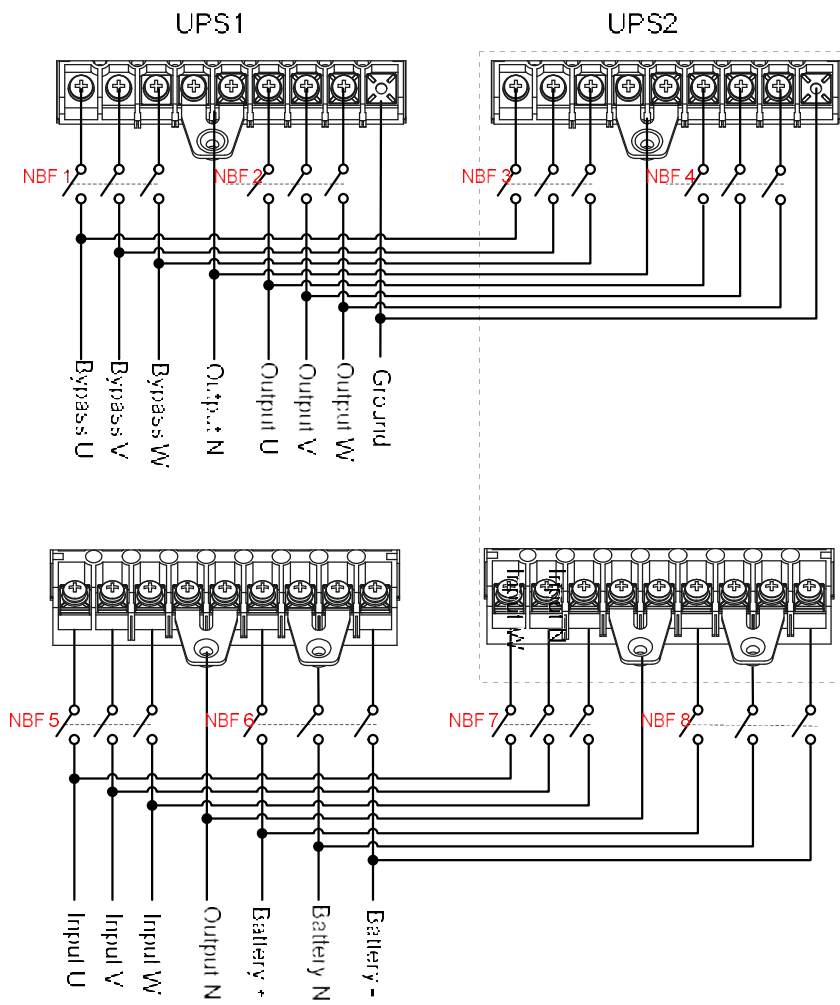
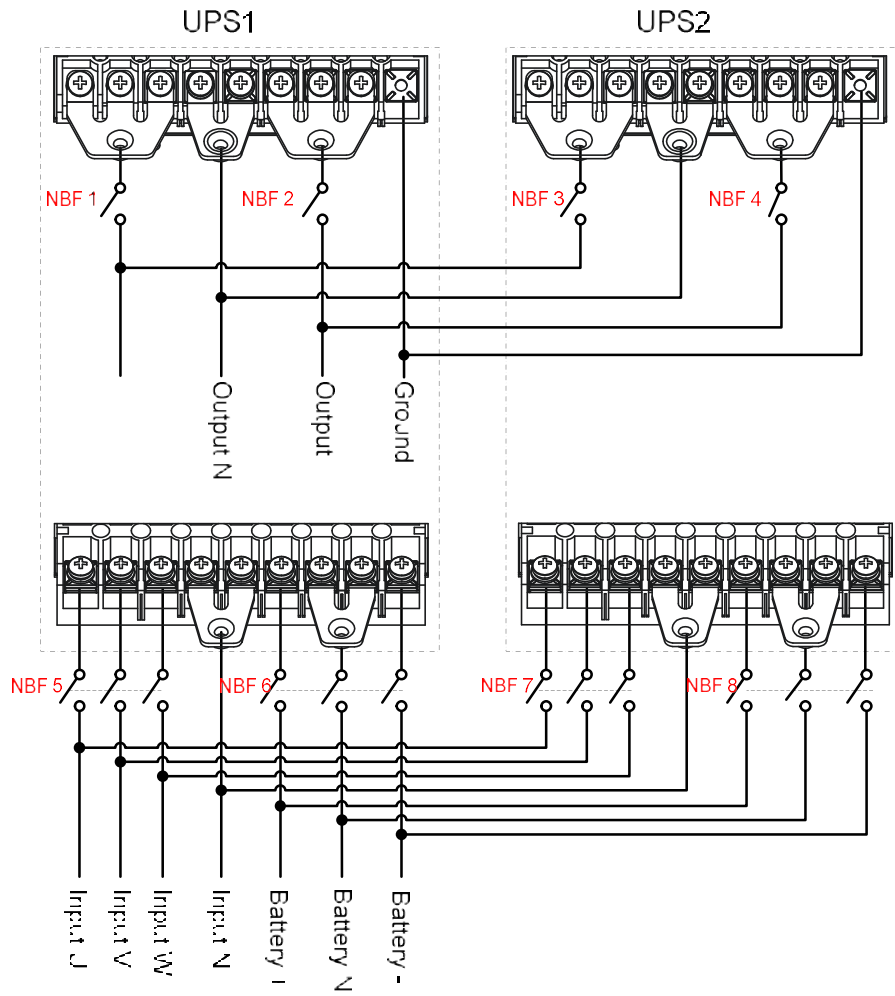
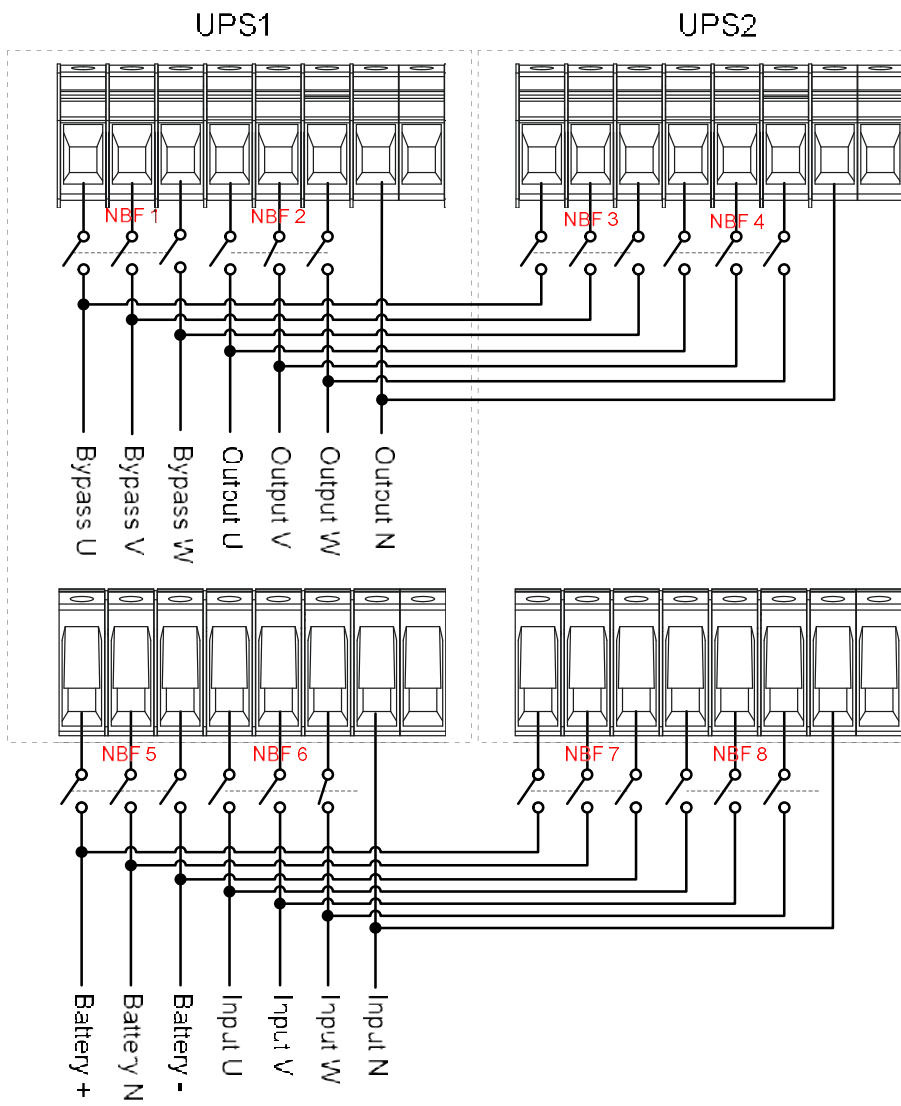
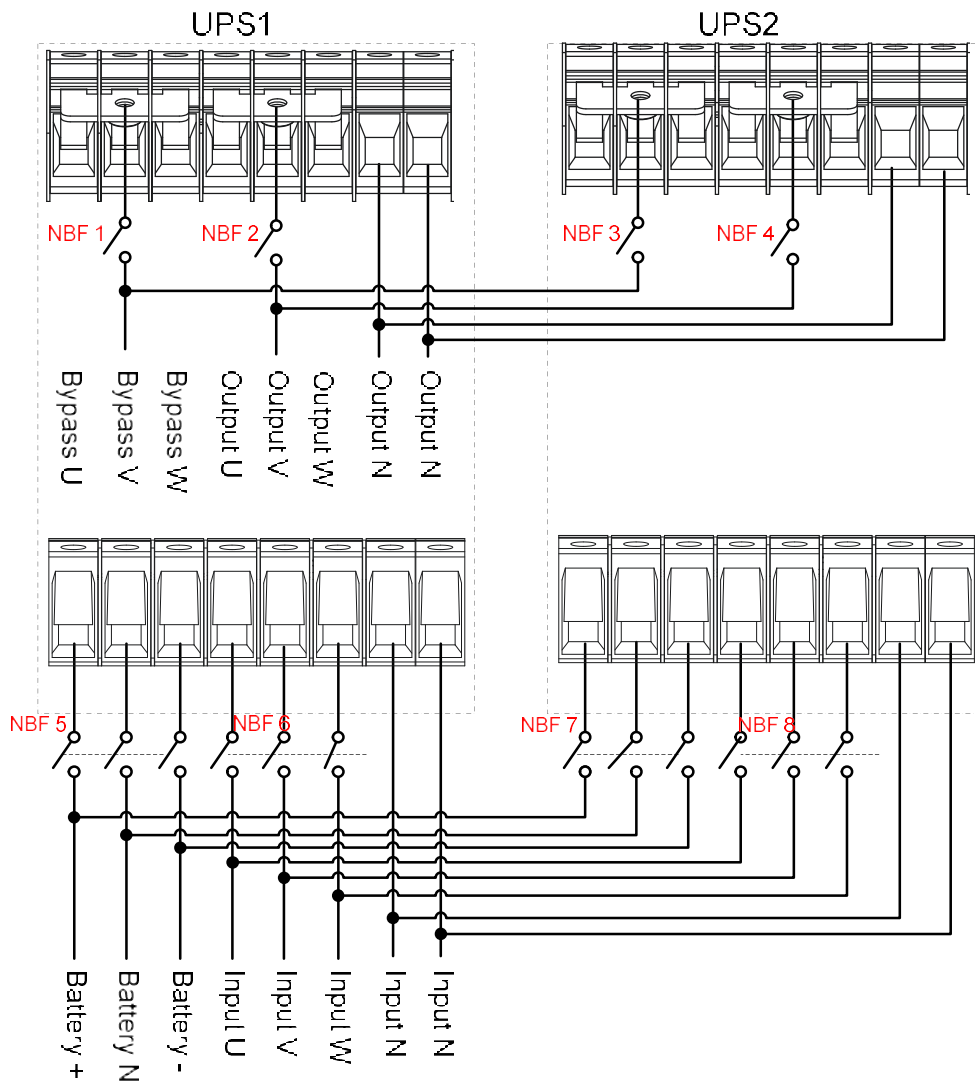

Figure3-29 Diagram of 33 mode parallel system wiring of 10kVA-20kVA UPS
Figure3-30 Diagram of 31 mode parallel system wiring of 10kVA-20kVA UPS
Figure3-31 Diagram of 33 mode parallel system wiring of 30kVA-40kVA UPS
Figure3-32 Diagram of 31 mode parallel system wiring of 30kVA-40kVA UPS
Step 2 Connect the wires of input, output, battery and grounding in parallel system on the basis of Figure3-29, Figure3-30, Figure3-31 or Figure3-32.